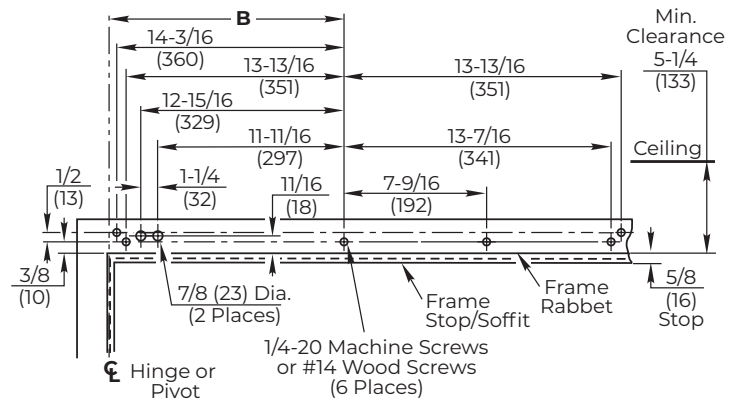

Figure 15 Left Hand Shown
4. Using detailed template on page 20, prepare six (6) holes for 1/4-20 machine screws or 14 x 2-3/4" wood screws. Blind rivet nut (by others) is suggested for unreinforced hollow metal or aluminum frames. (Figure 15)
5. **For concealed mounted conduit (if applicable):** Prepare two (2) 7/8" (22mm) diameter holes for conduit, for power input and for switch/sensor wires.